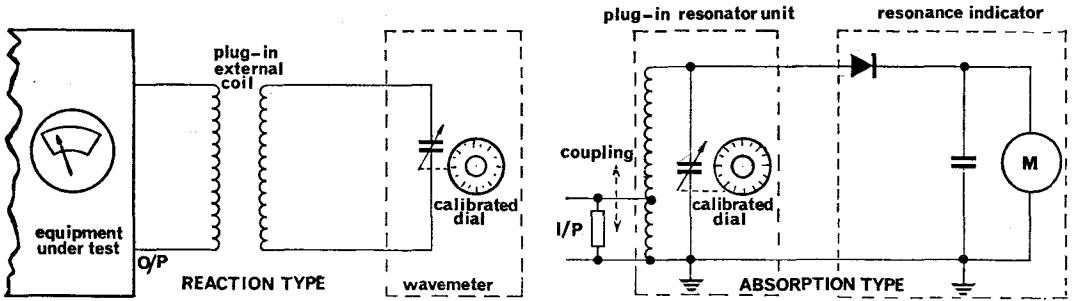

Fig. 5. Basic wavemeter circuits
18. **Reaction wavemeters.** The circuit of a simple reaction wavemeter is shown in figure 5. The coil, one of a range which is mounted externally to the meter, is loosely coupled to the output of the circuit whose frequency is to be measured. The tuning capacitor is varied until an indicator in the equipment under test shows resonance. This may be a maximum or minimum, depending on the position of the meter in the equipment circuit. When the wavemeter reaches resonance (max loading on the equipment under test) it is important that the coupling is reduced to the point which produces a barely usable indication. If the coupling is not reduced a sharp resonance point cannot be determined and the reading obtained may be in error. The frequency is read off a calibrated dial on the variable capacitor, often fitted with a vernier scale to enable more accurate readings to be obtained. It is also important that resonance should always be approached in the direction in which the instrument was calibrated (specified in the handbook) to eliminate errors caused by backlash in the dial drive. Some wavemeters are not calibrated in frequency and the reading on the dial must be converted by reference to a calibration chart or graph supplied with the instrument. Always check that this chart bears the serial number of the actual instrument being used before accepting the reading.